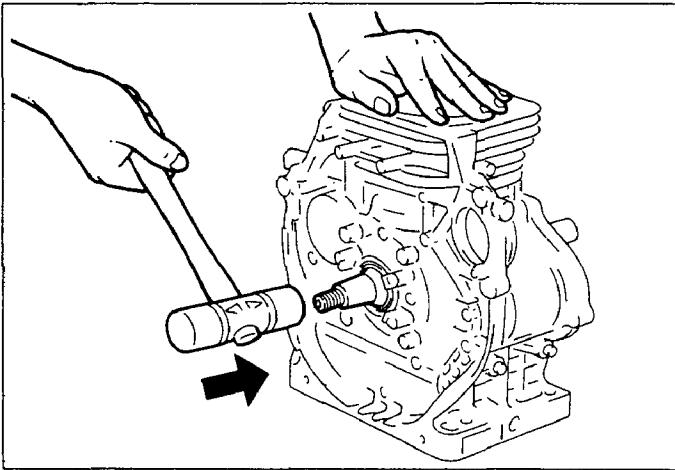

Fig. 40
| 31 | Crankshaft | (1) Tap lightly on flywheel end of crankshaft to rmove from crankcase. (See Fig. 40.) | | |